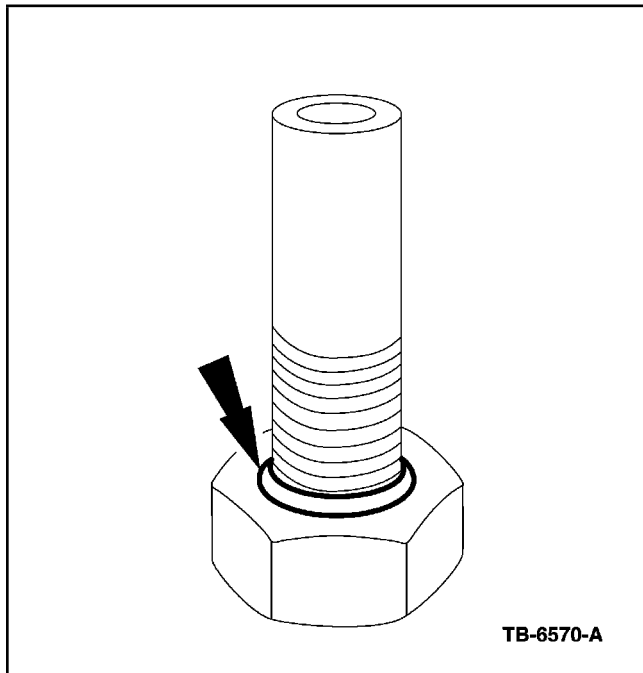

Figure 1 - Article 02-6-6
2. While the drain plug is removed, remove the O-ring from the fluid pan drain plug and discard (Figure 1).